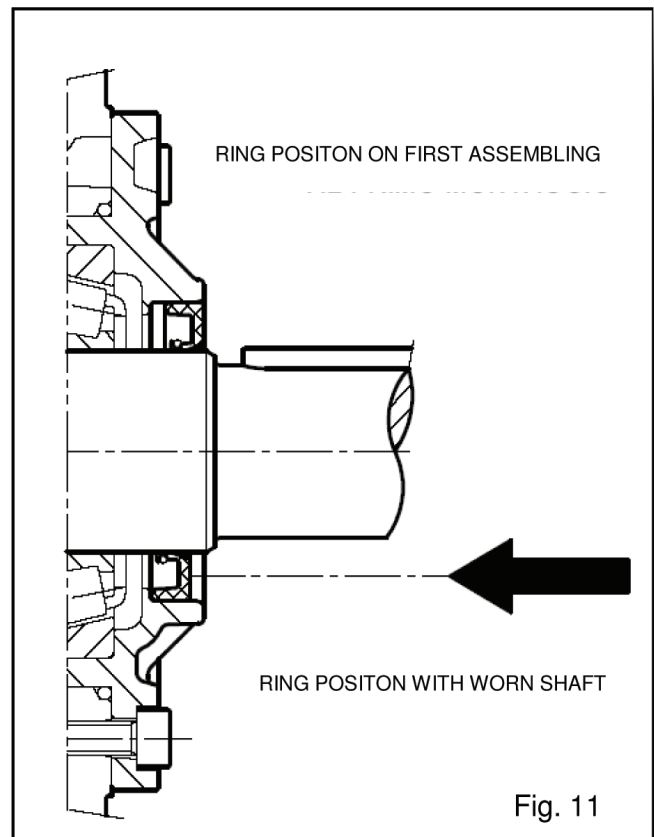

Fig. 11
- C) Before reassembling the side covers, check the seal lips for wear. If they need replacing, fit the new ring following the indications in Fig. 11.
Note: Should the shaft show diameter wear where there is the seal lip, it is possible to avoid grinding by fitting the seal further as indicated in Fig. 11. Before installing the cover (sight glass side) check that the shim rings have been placed. To help the covers fit on the crankcase, you can use 3 screws M6 x 40, and then finish screwing them with the original bolts M16 x 16.